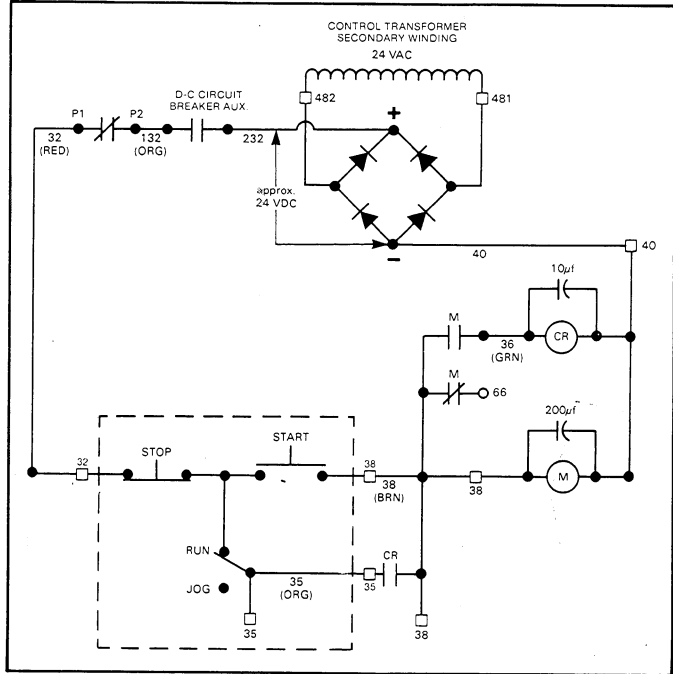

Figure 6.1. Simplified control circuit schematic.
- Figure 6.1 which is a simplified control circuit schematic for a controller.
<p>Cr relay not picking up.</p>	<ul style="list-style-type: none"> <input type="checkbox"/> Connect a volt-ohmmeter on the remote operator interface. Place it on terminal 35. <input type="checkbox"/> Non-reversing controllers, connect the second probe to the 40 (orange) wire connected to the M contactor. Reversing controllers, connect the second probe to the 40A terminal of the terminal board located on the bracket in front of the contactors. <input type="checkbox"/> The reading should be +24 VDC for normal operation. (Refer to Figure 6.1 to see the logic of this test.) <input type="checkbox"/> Next, shift the probe from the terminal 35 to terminal 38 on the same terminal board. However, leave the second probe where it is. <input type="checkbox"/> Press the START switch. The reading should be approximately 24 VDC for normal operation. (Refer to Figure 6.1 to see the logic of this test.) <input type="checkbox"/> Press the START/STOP switch to STOP, and then START. A 24 VDC (approximate) reading should continue to appear. If it does not, the CR relay is not picking up. In this case, replace the Regulator Module.